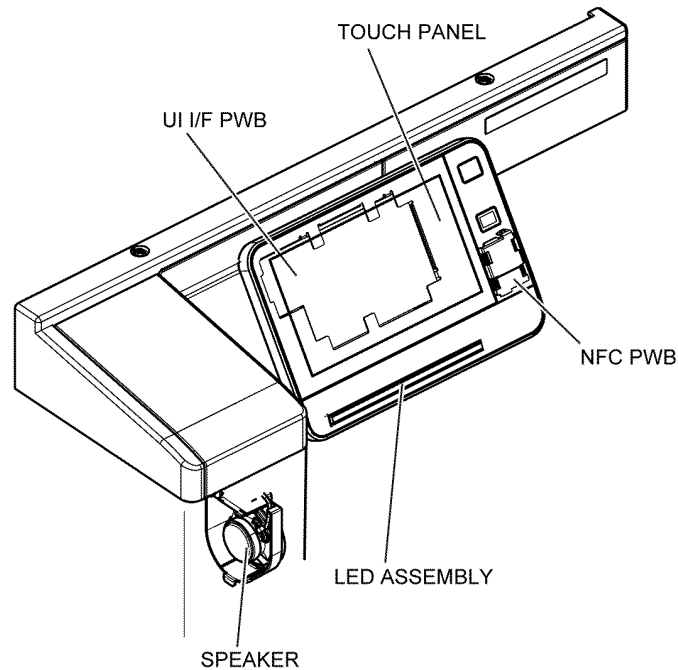
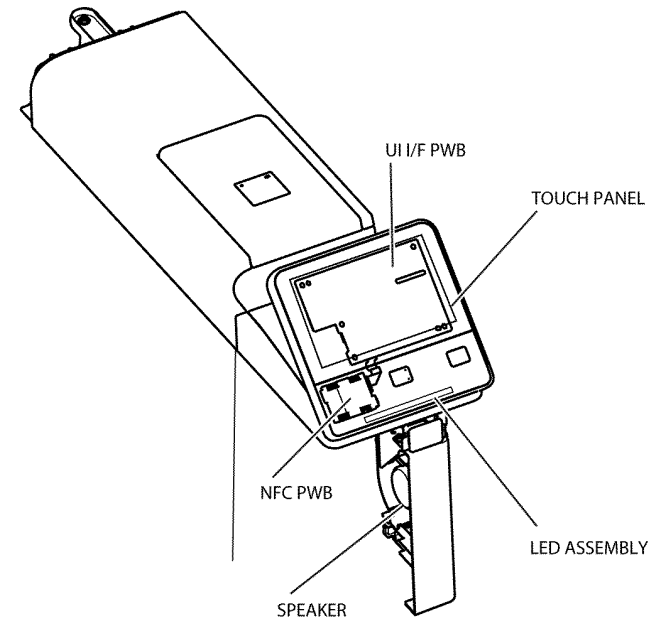

Figure 1 User interface C7030F
Figure 2 User interface C7000
The user interface (UI) displays the state of the printer via the LCD touch screen and LED machine status display. The UI enables operation the device by means of the touch screen and buttons. Refer to Figure 1 \(C7030F\) and Figure 2 \(C7000\).